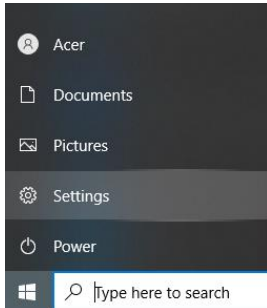

Fig.1
2. From the Windows menu select Settings (Fig.1).